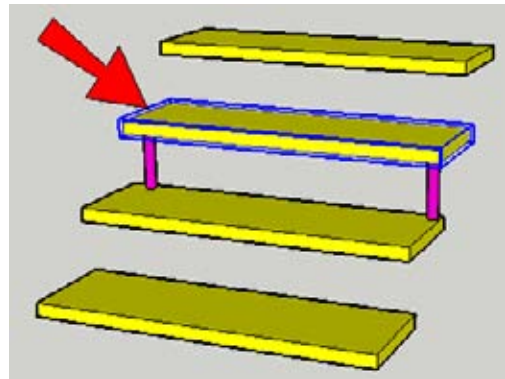

Figure 7-98
5. The next step is to nest the support components into the tread component above them. First you must be able to identify in the Outliner which tread is above the supports. Select the tread above the supports (Figure 7-98).